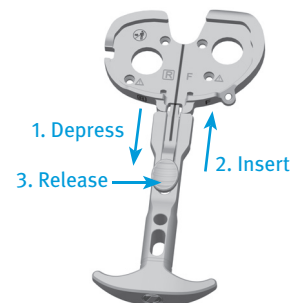
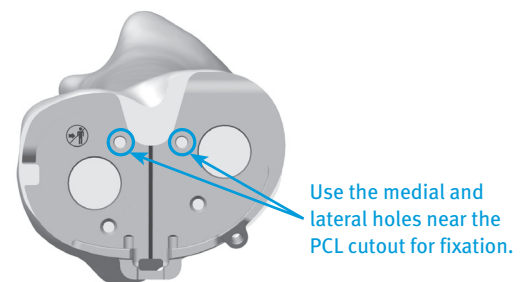
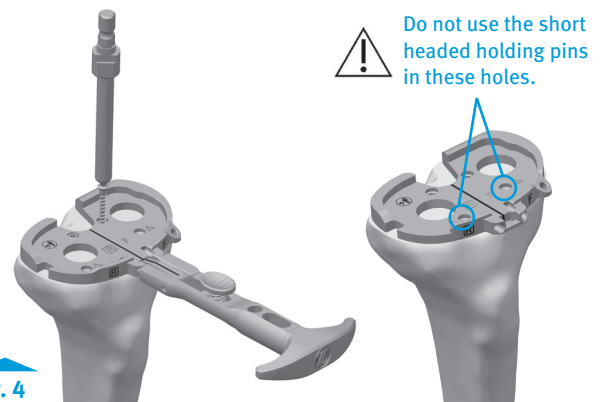

Fig. 2
Fig. 3
Fig. 4
- Once tibial osteophytes have been thoroughly removed, select the appropriate *Trabecular Metal* right or left Sizing Plate (Sizes A-I) that provides the desired tibial coverage, without overhang at any location on the resected tibia. Attach the Sizing Plate Handle to the sizing plate (**Fig. 2**). The recommended tibial rotational alignment is within 5° of the axis created by the medial 1/3 of the tibial tubercle and the PCL attachment point. The engraved line on the sizing plate can be used to aid in establishing the desired tibial rotation. (**Fig. 3**)
- When the desired position has been attained, secure the sizing plate by placing 25mm x 3.2mm (2.5mm female hex) screws or 25mm x 3.2mm short head holding pins in the medial and lateral holes near the PCL cutout of the sizing plate (**Fig. 3 and Fig. 4**). The remaining adjunct fixation holes shown on the surface of the sizing plate can be used if necessary. Use only the female hex head screws in the holes designated with a caution symbol. Ensure that the sizing plate remains in the proper position when securing it to the bone.